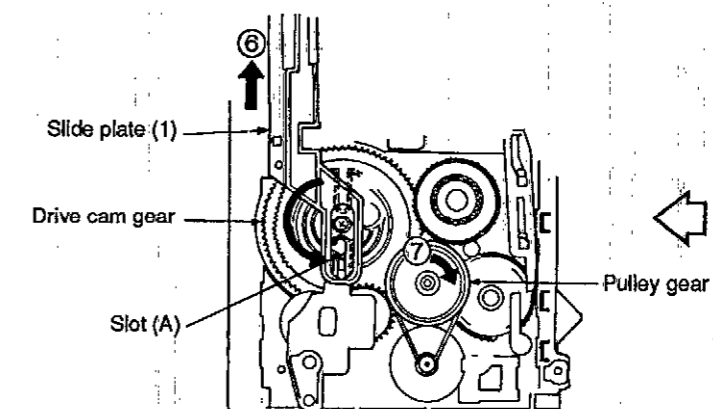

Fig.10
17. Slide the slide plate (1) in the loading unit in the direction of arrow ⑥. (See Fig.10.)
18. Rotate the pulley gear in the direction of arrow ⑦ so that the slot (A) of the drive cam gear is put into a given position as shown in fig.10. (See Fig.10.)